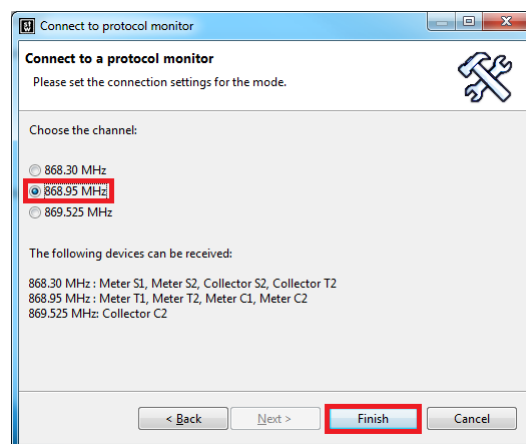

Figure 53: Select the protocol monitor device
- (5) Select the mode and press 'Finish' as shown in figure 53.